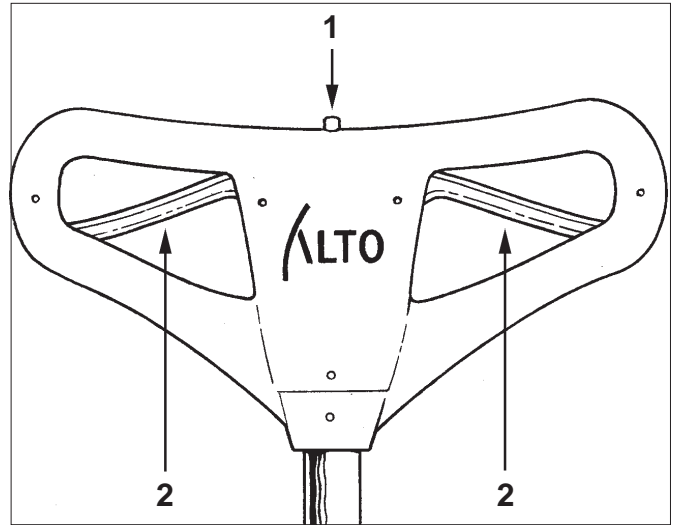

Figure 5
The switch to start and stop the machine is activated by the interlock button (1) and the levers (2) under the handle grips. See figure 5.
3. Push the interlock button (1), and apply pressure to the levers (2). See figure 5.